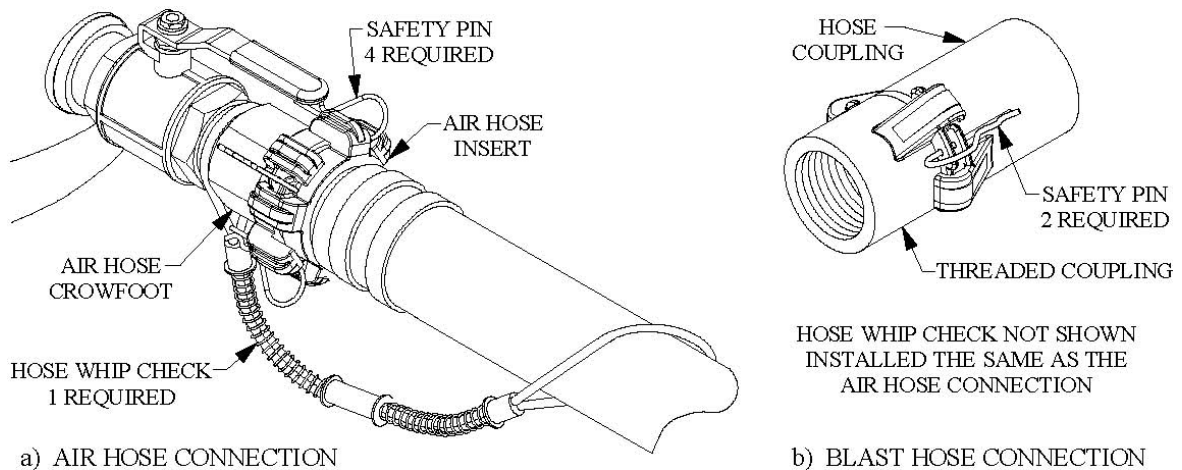

Figure 8.2 – Hose Connection Disconnect Protection
- 8.7. **Blast and Air Hose Couplings:** All air hose, blast hose, and threaded couplings have pin holes that align when connected. To prevent accidental hose disconnections safety pins must be installed through these holes. Each hose connection must also include a hose whip check that will hold the hose if there is an accidental disconnection. Connect one loop to each side of the connection and stretch out as shown in Figure 8.2 below. Check hose connections daily and replace missing or damaged pins and whip checks.